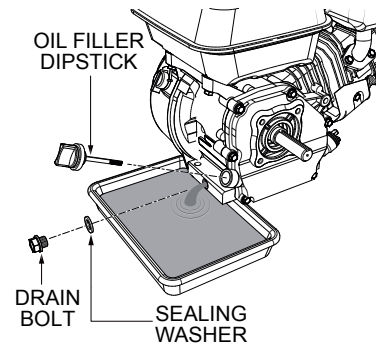

Figure 32. Engine Oil (Draining)
1. Drain the engine oil when the oil is warm as shown in Figure 32.